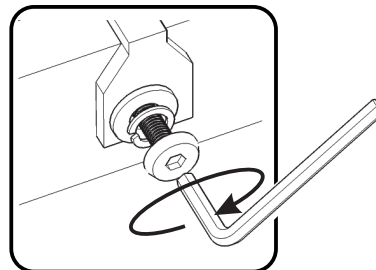

Figure 2
Attach Supports (E) to unit with Flat Washers, Spring Washers and Head Cap Bolts, tightening bolts only half way. (See Figure 2)